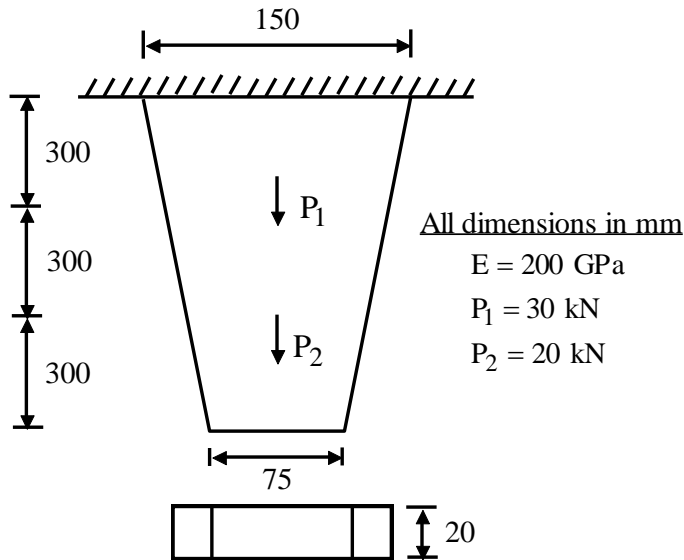

Fig. Q. 3 (b)
- b) For the tapered rod shown in fig. Q. 3(b) find displacement at node position & stress & strains in each element. Further find the overall elongation of element neglect mass.